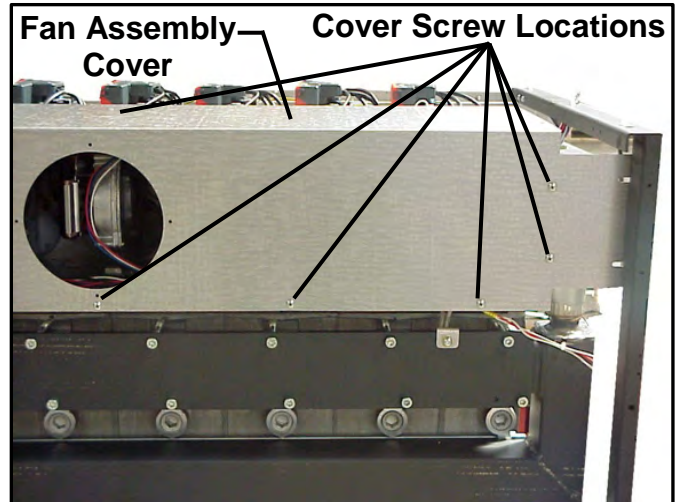

Figure 4: Remove Fan Assy Cover
3. Remove the top cover from the boiler. A screwdriver may be needed to pry the cover from the two pins on either end. The cover is secured with spring clips and pins to the front, back and side panels of the unit. In addition, two (2) groups of ground wires from the frame of the boiler are attached with clips to the underside of the top cover. Use care when disconnecting these ground wire clips. Note that all lugs have capture spring clips that are released by pressing a small nub under the lug body.
4. Remove the front panel from the boiler to provide access to the fan assembly cover (**Figure 4**).
5. Remove the screws from the various locations on the fan assembly cover. A sampling of screw locations is shown in **Figure 4**.